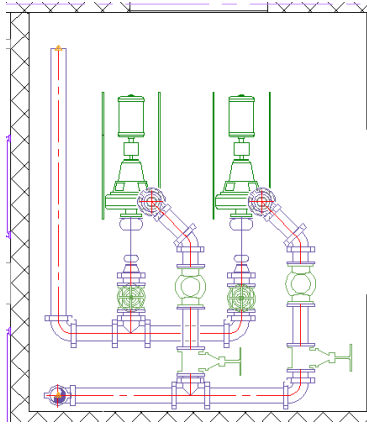

Figure 6.50
13. Click on the discharge pipe before the gate valve in the locations shown in Figure 6.50. Use the mouse to indicate the rotation. (Remember you can always flip it with the grip later if necessary).